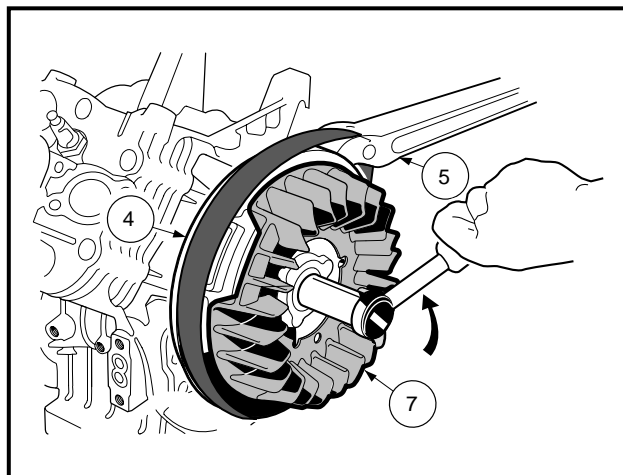

Figure 13-63 Flywheel Nut Removal
3. Hold the flywheel (4), **not the fan** (7), with a strap wrench (5) and, using a 22 mm socket, remove the flywheel nut (and flat washer) by turning it counterclockwise (**Figure 13-63, Page 13-32**).